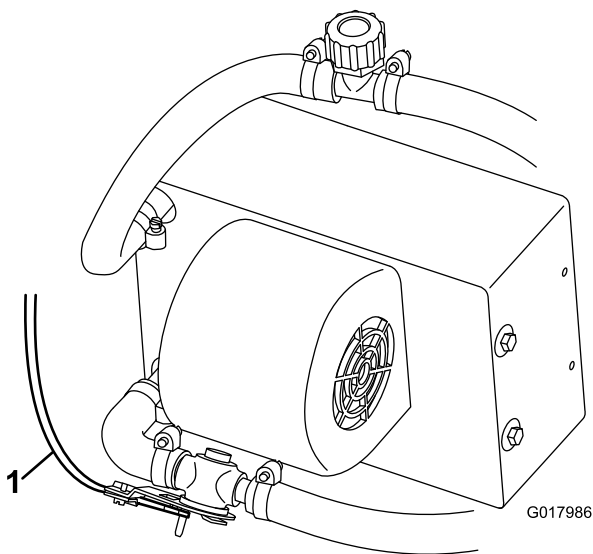

Figure 6
8. Route and connect the heater-control cable to the heater valve (Figure 6).